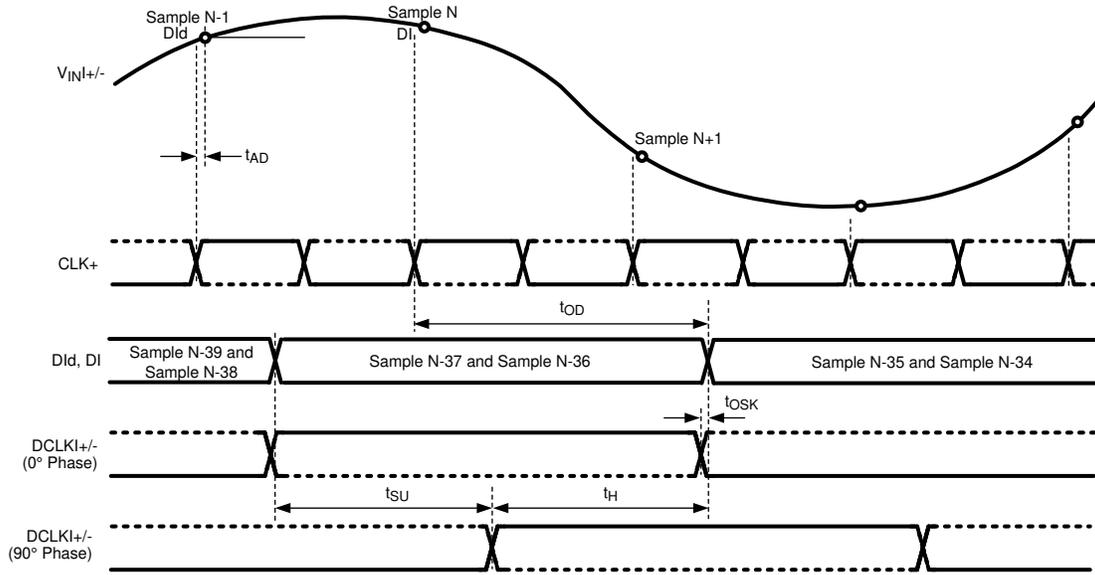
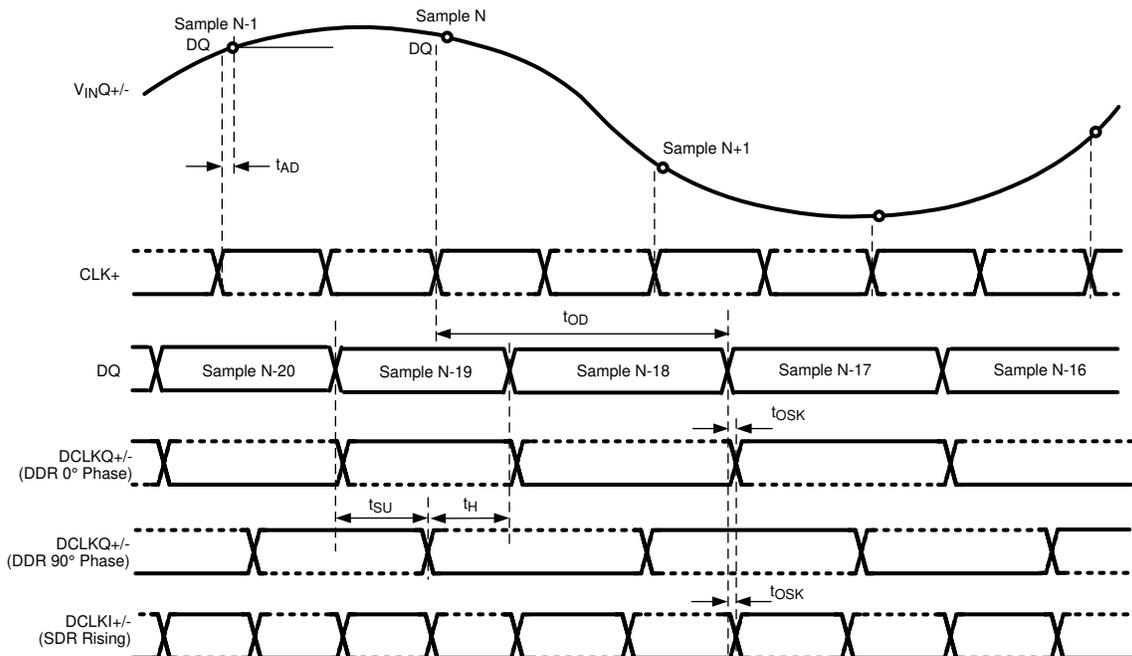

图 6-1. Clocking in Non-LSPSM, 1:2 Demux, Non-DES Mode*
FIG 6-6. Clocking in LSPSM, Non-Demux Mode, Non-DES Mode*
* The timing for FIG 6-1 through FIG 6-6 is shown for the one input only (I or Q). However, both I and Q inputs may be used. For this case, the I channel functions precisely the same as the Q channel, with V_{inI} , $DCLKI$, DId , and DI instead of V_{inQ} , $DCLKQ$, DQd , and DQ . Both I and Q channel use the same CLK .